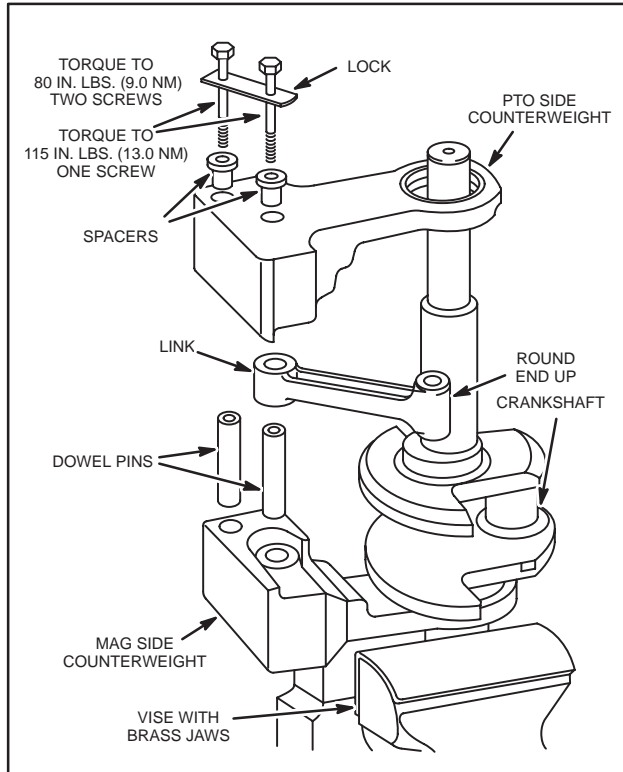

Fig. 191 – ASSEMBLING COUNTERWEIGHT TO CRANKSHAFT
- Slide flywheel side counterweight onto crankshaft, Fig. 191.
- Install dowel pin(s). Slip link over dowel pin with rounded edge of free end up, Fig. 191.